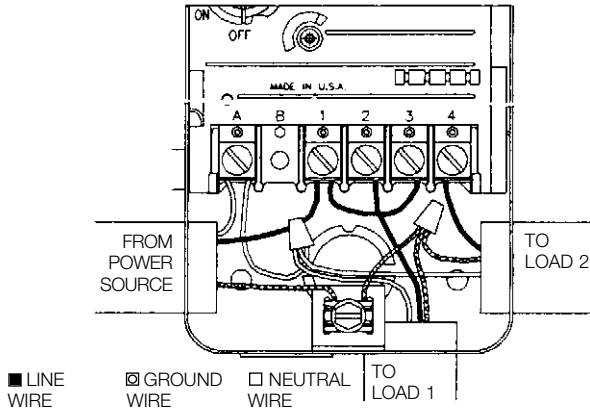

Figure 3
REFER TO FIGURE 3 ABOVE FOR FOLLOWING INSTRUCTIONS
- Install a jumper wire (use appropriate wire) from terminal 1 to terminal 3 (see figure 3). Once the jumper is in place, tighten terminals 1 and 3.